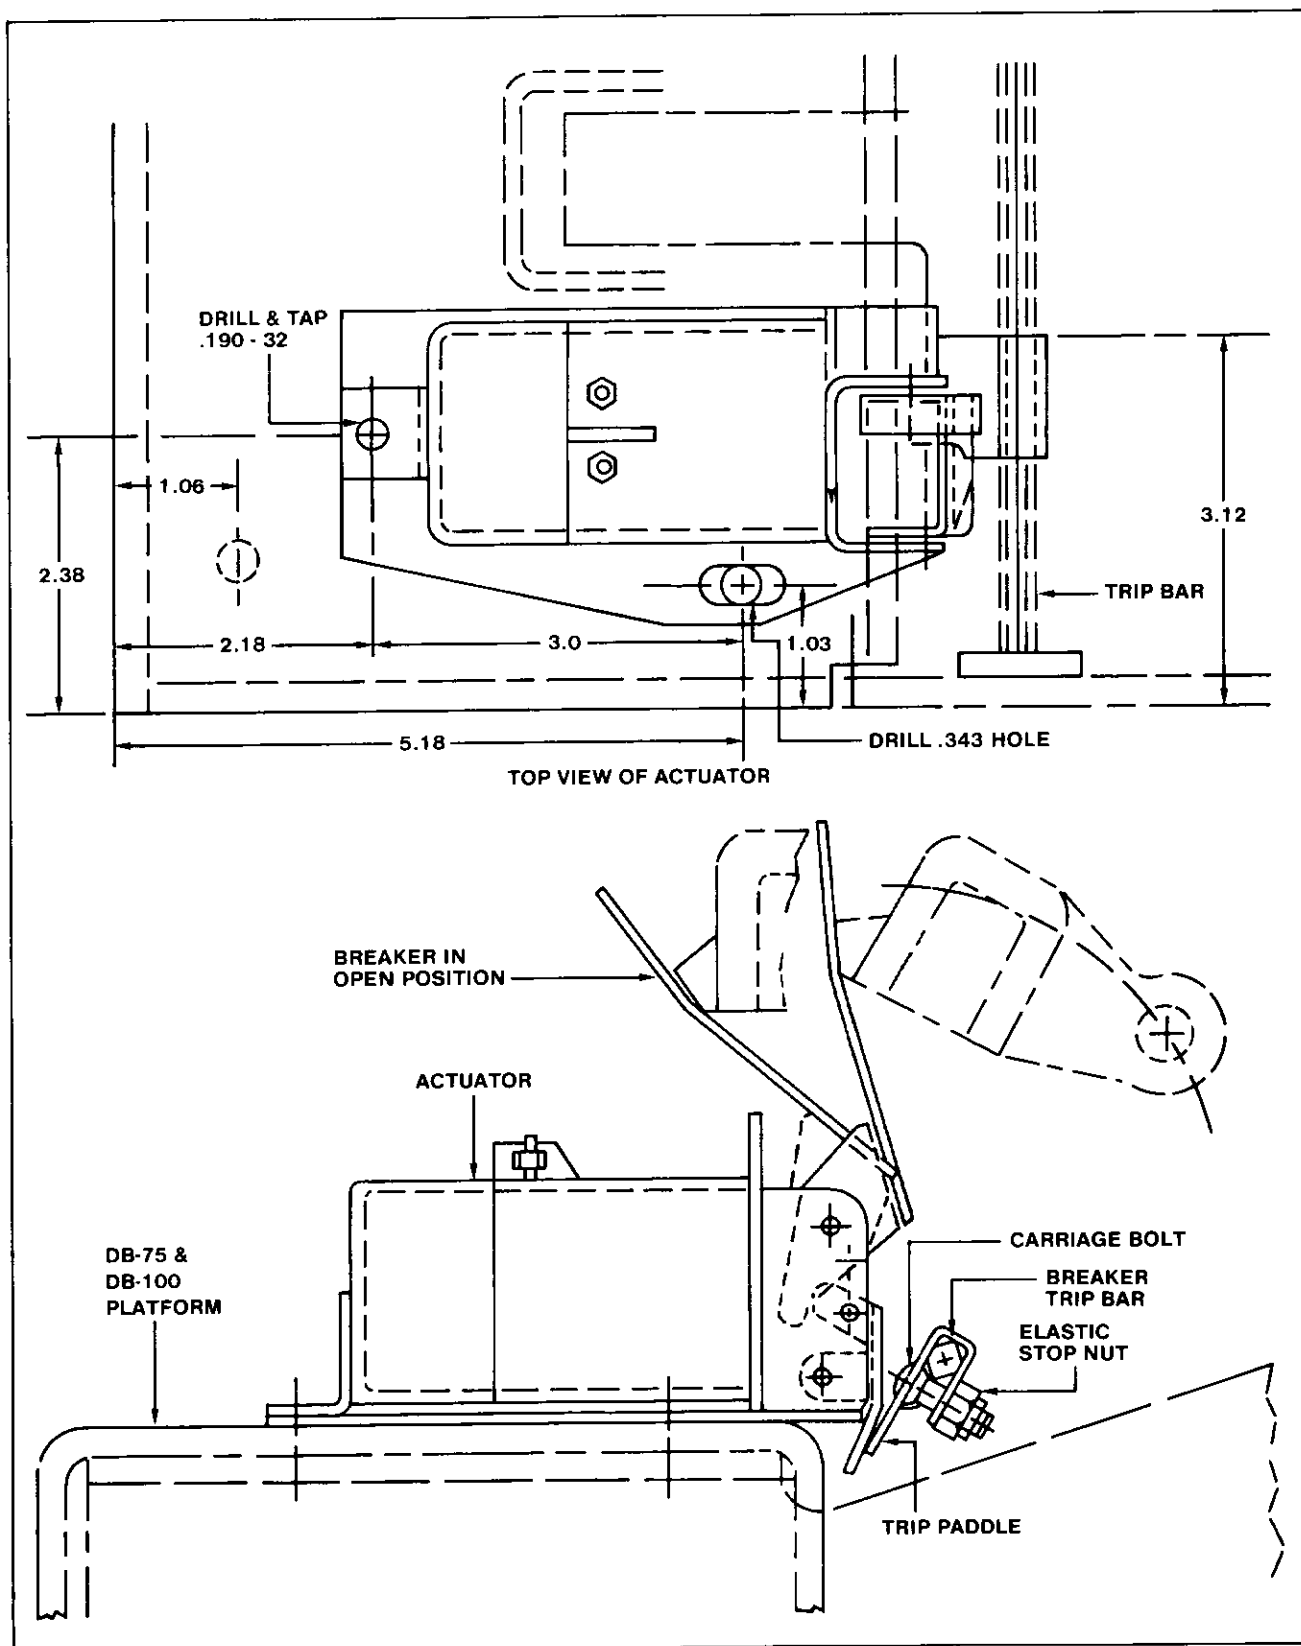

Fig. 24 Positioning of Actuator Trip Bar DB-75/100
1. Position and assemble trip paddle on breaker trip bar using .25-20 x .75 carriage bolt, trip bar finger and elastic nut. Left edge of paddle should be 3.12" from side of platform, Figs. 24 and 25.
2. Drill a .343 hole in platform base after you have properly positioned the actuator on the platform per Fig. 24 and 26. Hole is approximately 5.18" from the front of the platform and 1.03 from the side of the platform. Secure the actuator with a .312-18 x 1.0 screw, nut and washers.